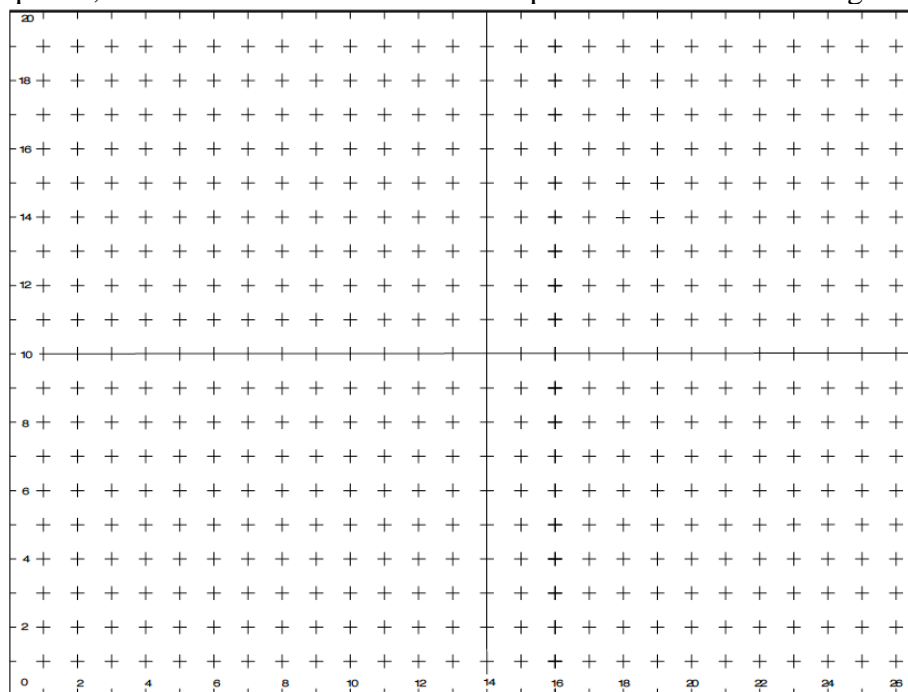
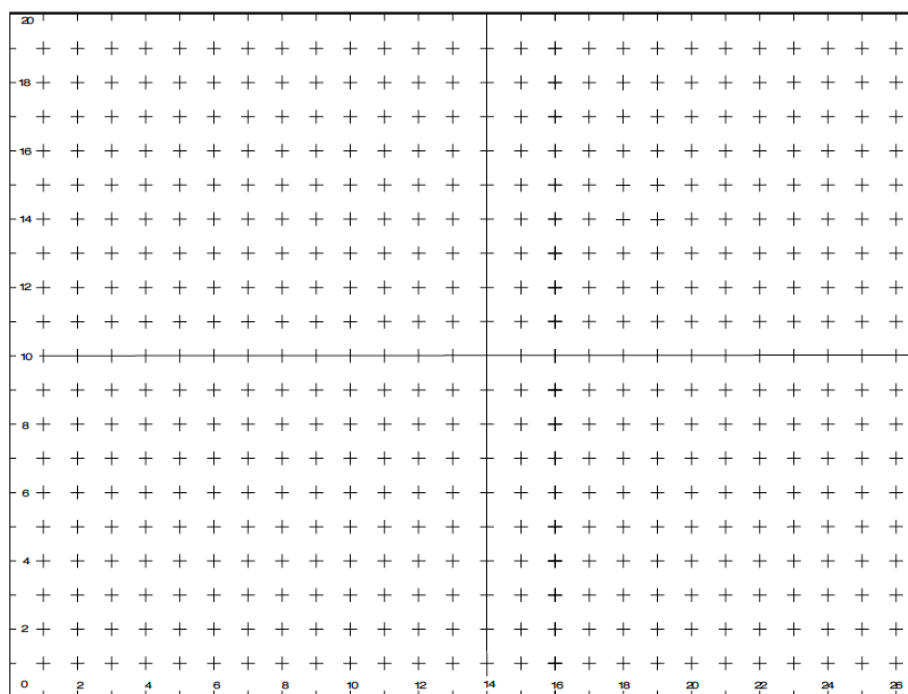

Figure 1. Equipotential lines due to parallel electrodes.
Figure 2. Equipotential lines due to point electrodes.
2. Using a pencil, draw to **SCALE** the size and shape of the electrodes in Figure 1.
- Find a point on the conducting paper where the DMM reads 7V and mark it on Figure 1. If you read a negative value, it means you have reversed the wires and your reference point is at higher potential than your point of interest. To correct this, turn your leads around.
- Find the equipotential of 7V, 6V, 5V, 4V and 3V and sketch them on Figure 2. Describe the shape of the equipotential surfaces and compare them with the equipotential lines in figure 1.